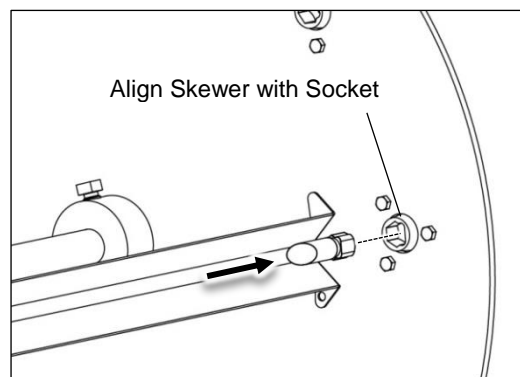

Figure 4-7
2. Align the other end of the skewer with the corresponding socket and push into place (See Figure 4-7).